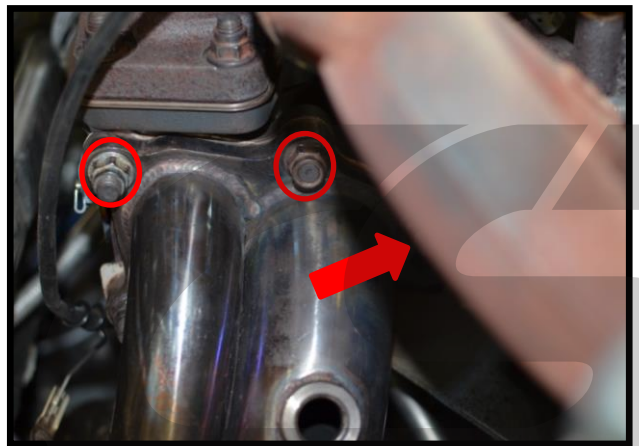

Figure 6b
- b) Remove the three 14mm nuts **circled in red** and shown with the **red arrow** in **Figure 6b.**